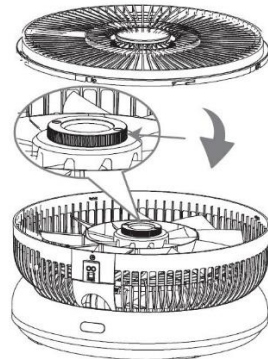

Figure 10
- After the front grille is opened, grip and turn the cap in a clockwise direction to release the fan blade (Figure 10).